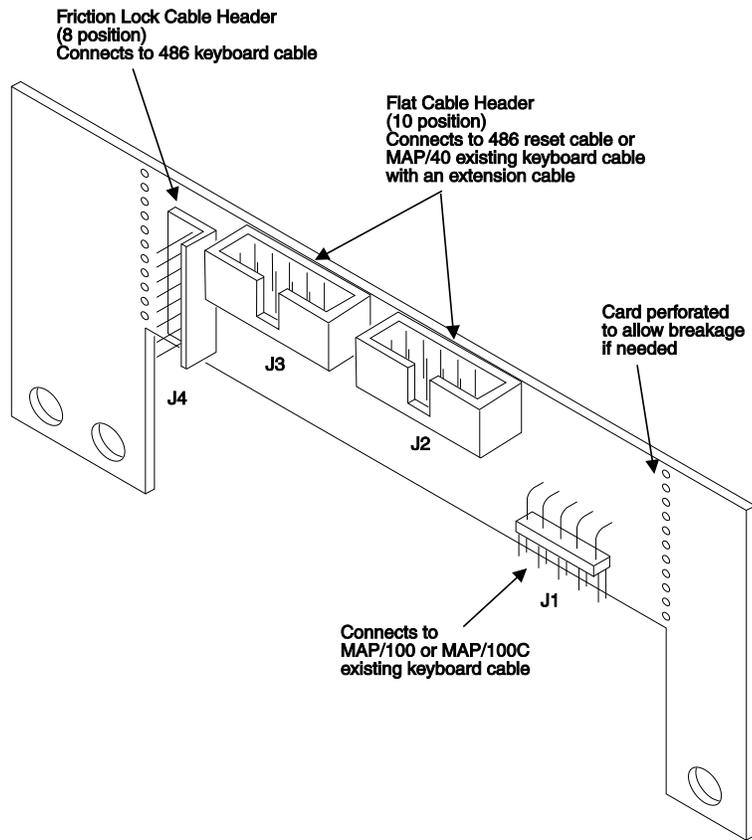
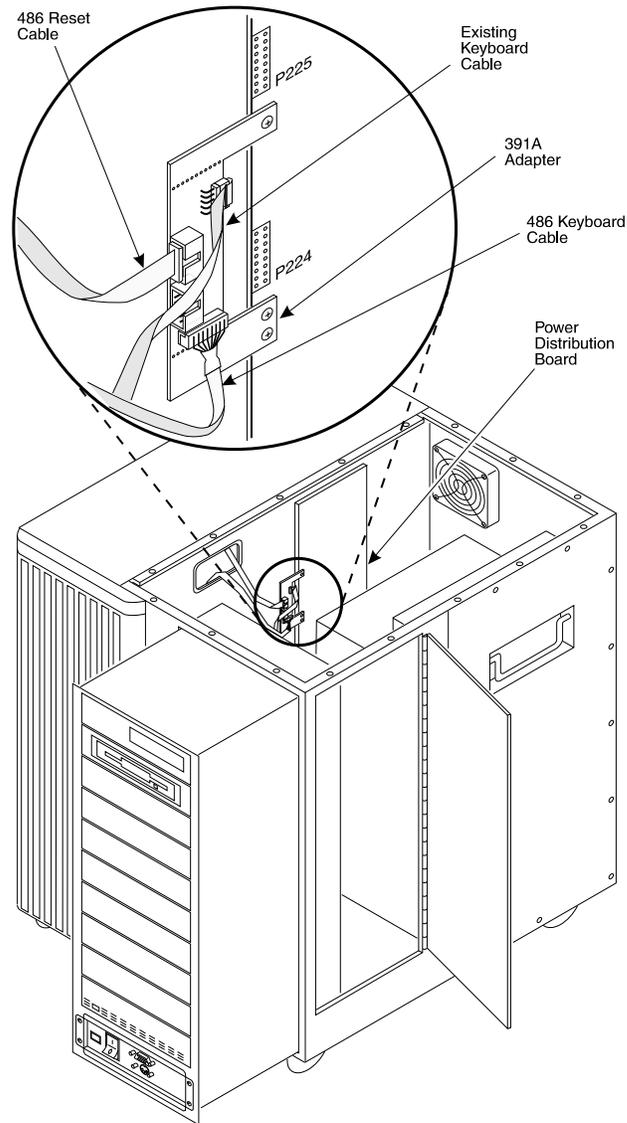

Figure 4-2. CPU/RMB Keyboard Adapter
Figure 4-3. CPU/RMB Keyboard Adapter Installed with Cabling
1. Get the CPU/RMB keyboard adapter and install the headers facing you and in the shape of a "C" (refer to Figure 4-3). Install it using the two screws removed to hold the adapter to the power distribution panel. Do not tighten the screws at this time.
4. Plug the new 486 keyboard cable onto J4. Plug the RM card reset cable onto J3. Refer to Figure 4-2 and Figure 4-3 for the proper orientation.
6. Dress the 486 keyboard/reset and RMB reset cables up through the into portal into the card cage area (see Figure 4-3).